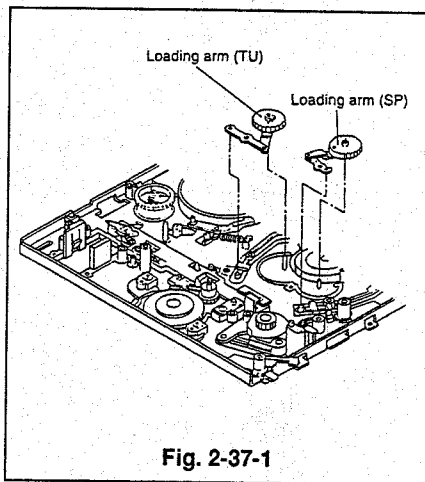
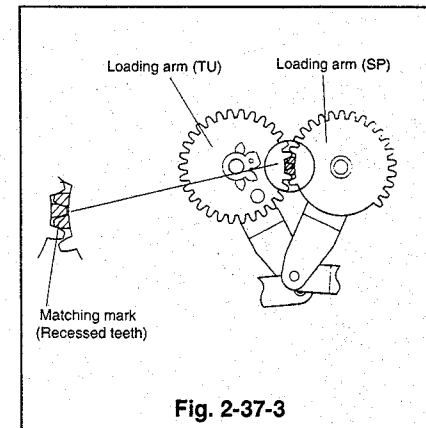

Fig. 2-37-1
Fig. 2-37-3
- Raise the loading arms upward, first SP and then TU, to remove them. (Refer to Fig. 2-37-1)
- Place the new loading arm (TU) in the position shown in Fig. 2-37-1, then place the loading arm (SP) in the position shown in Fig. 2-37-1 at the same time aligning the marks on the cogs, refer Fig. 2-37-3(shaded area).